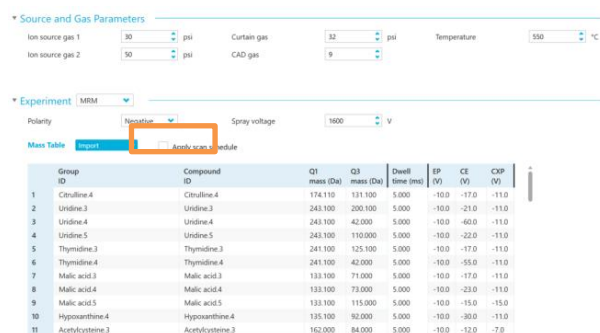

Figure 5-2: Defining the negative polarity information for Experiment 1.
4. Select Negative polarity for the first experiment as indicated in the orange box in **Figure 5-2**.
4. Adjust the Target Cycle time to 800 msec as show in **Figure 5.2** indicated by the green box.